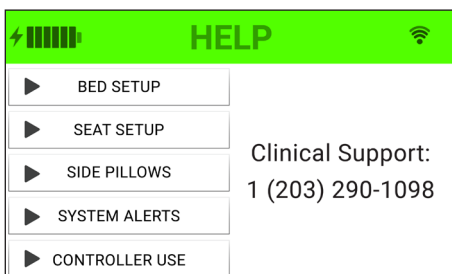

Figure 12. Video menu screen
3. A menu will appear. Press any topic to view the corresponding tutorial video. (Figure 12)